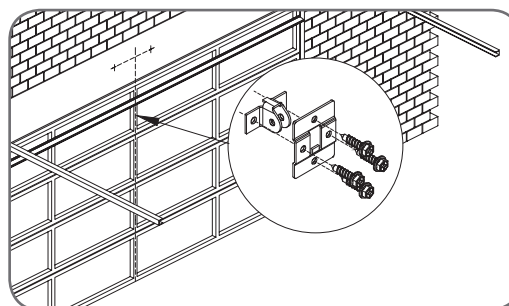

fig 17
The door bracket comes in two parts. The bottom plate with two mounting holes is used on its own for one piece doors. For sectional doors, the top plate is placed over the bottom plate and is fixed with four (4) screws (Fig. 17).
- Mount the door bracket, or bracket assembly, on the door's centre line one-third down the top panel (Fig. 17) using M6 or equivalent screws (not supplied),